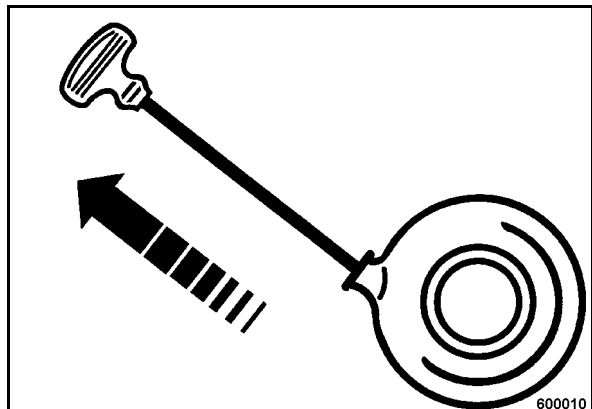

Fig. 19
- Pull the rope by the starter handle quickly and powerful as far out as possible (Fig. 19).